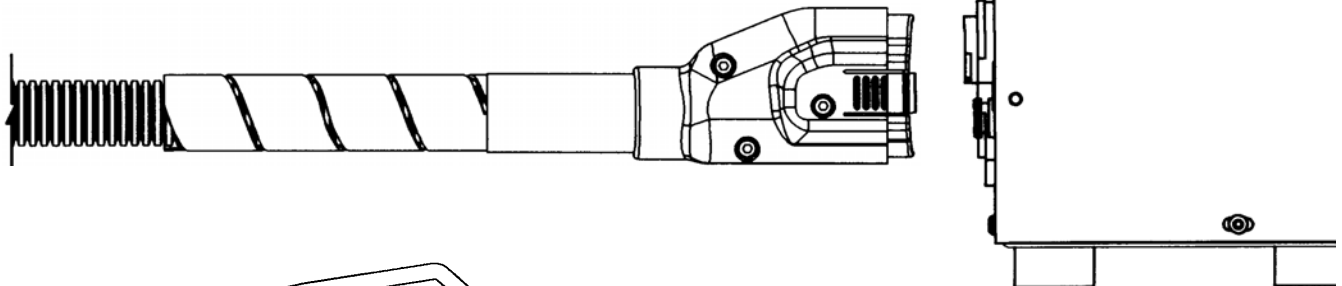

Fig. 3
5. Connect either end of the PHM Feeder Hose to the PDM Dispenser connection block (See Figure 3). Align the connectors and push the hose end onto the dispenser connection block until the latches engage.